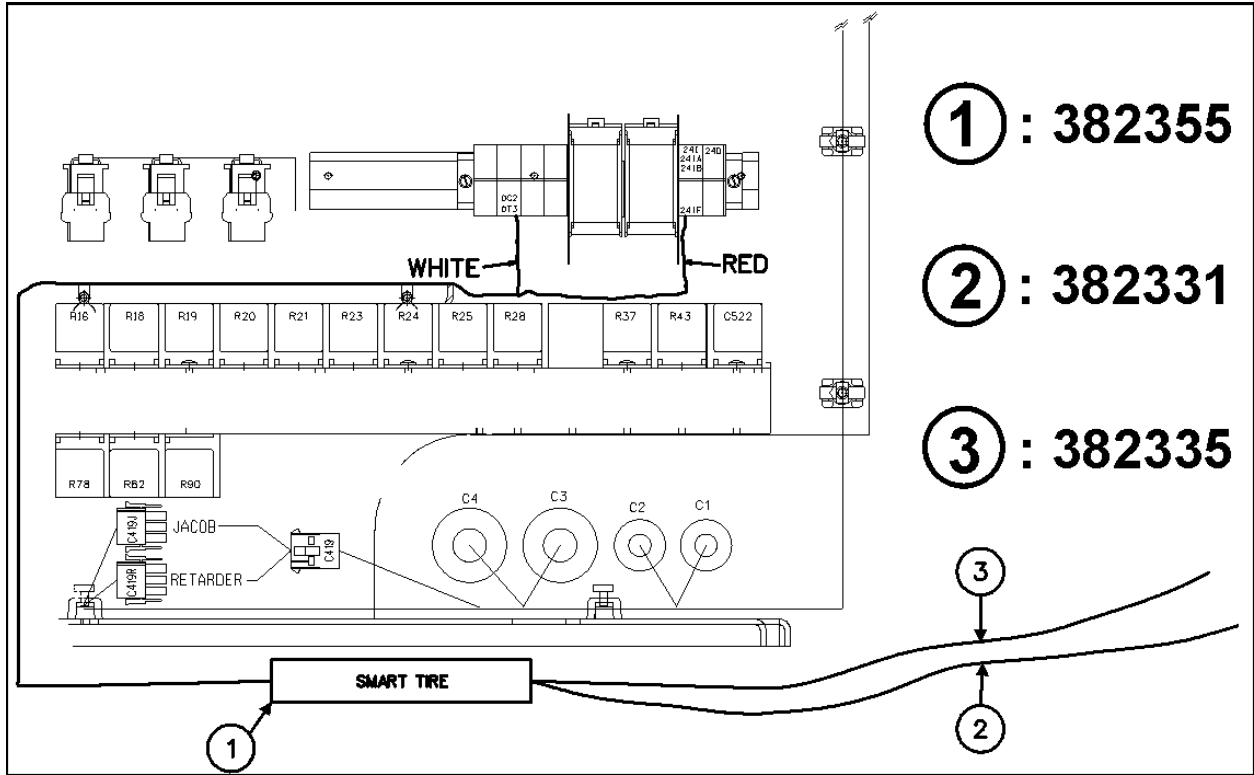

FIGURE 6
6. Fix receiver (382355) inside the front service compartment using Velcro or double-face self adhesive tape as per figure 6.
8. Route red and white power cable between the receiver and terminals as indicated in figure 6.